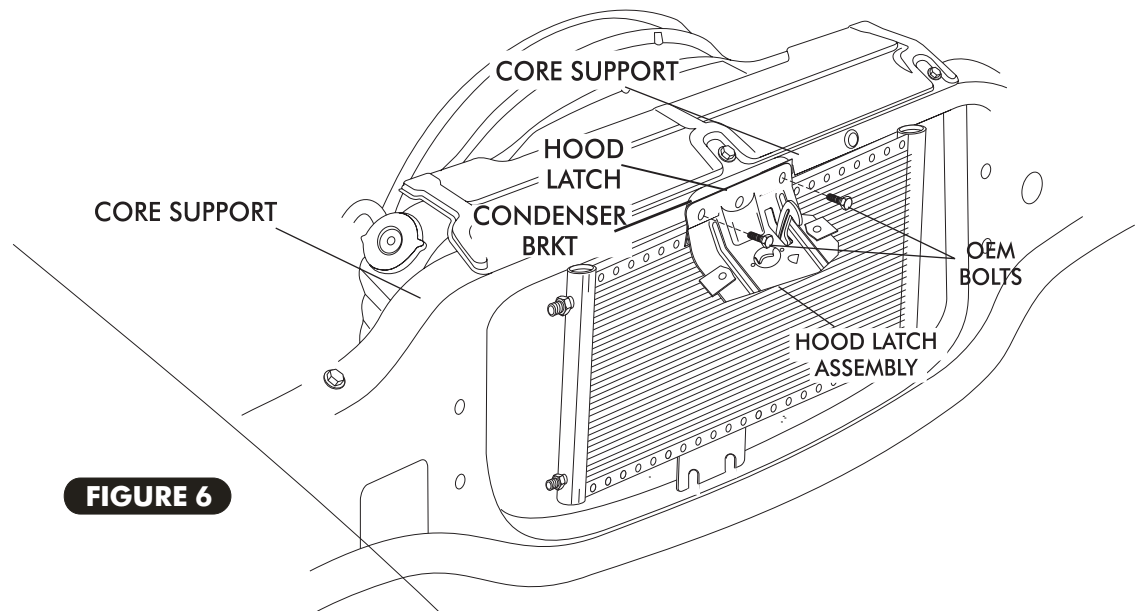

FIGURE 6
- RE-INSTALL HOOD LATCH ASSEMBLY USING OEM BOLTS, INSTALL OEM BOLTS THROUGH THE HOOD LATCH ASSEMBLY, CONDENSER, BRACKET, AND THROUGH THE CORE SUPPORT. SEE FIGURE 6 BELOW.